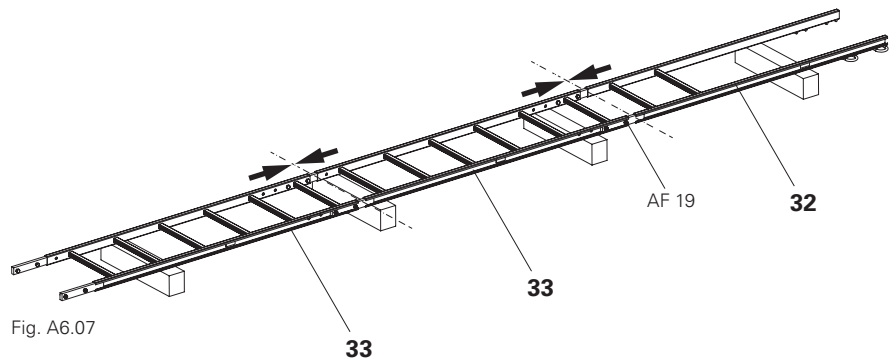

Fig. A6.07
5. Pre-assemble the ladder from access ladder 180/2 (**32**) and ladder 180/6 (**33**) to required length. (Fig. A6.07)